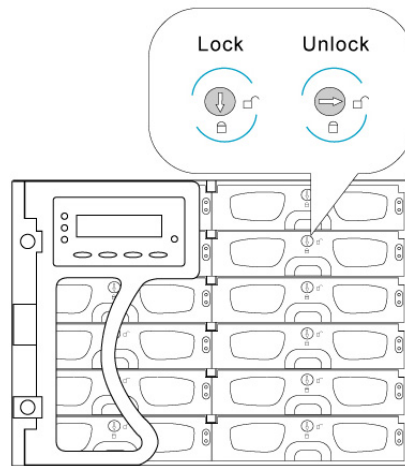

Figure 2-11: Drive Tray Key-lock Rotation
Step 5. **Lock the flap into place.** Use a flathead screwdriver to turn the key-lock until the groove on its face is in a vertical orientation. (See *Figure 2-11*)